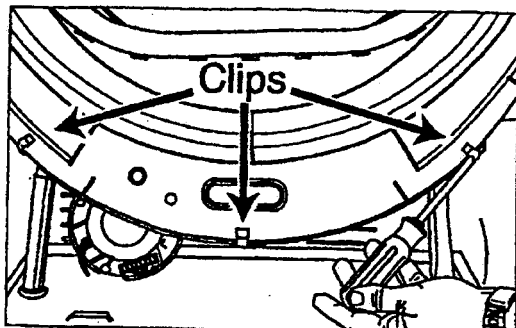

Figure 2-38
3. Using a flat-bladed screwdriver, slide under the clip and pry to remove. Remove the remaining clips from the outer tub cover (*Figure 2-38*).